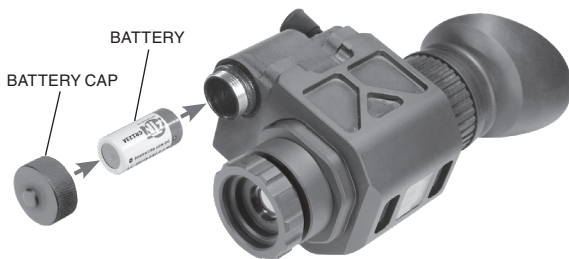

FIGURE 2.1. BATTERY INSTALLATION
3. Observe polarity, as indicated on the outside of the battery compartment and insert one 3.0 Volt CR123A Lithium battery into the battery compartment, minus (-) end first (Figure 2.1.).